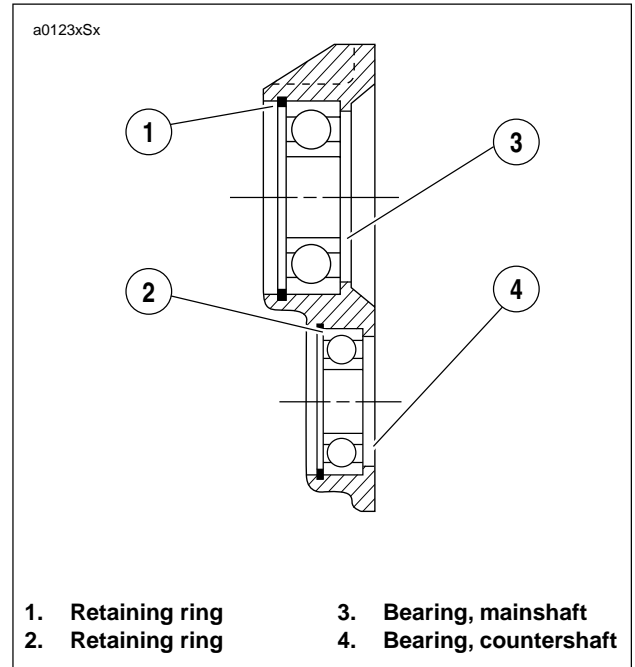

Figure 6-81. Ball Bearing Assembly
5. See Figure 6-81. If bearing replacement is required, remove retaining rings (1, 2) using snap ring pliers (Snap-On Part No. PR-36). Press out bearings (3, 4) from the inside of the crankcase.